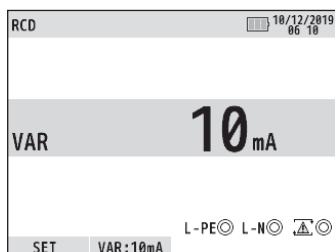

Fig. 11-8
- (1) Press F1 & F3 to select measurement mode & RCD type.
- (2) Press F2 switch to select "VAR".
- (3) The LCD shows current value 2 sec. (Fig. 11-8). Press F1 (SET) switch within this 2 sec. (If 2 sec or longer are elapsed without pressing the switch, press F2 switch again to reshown Fig. 11-8 screen.)